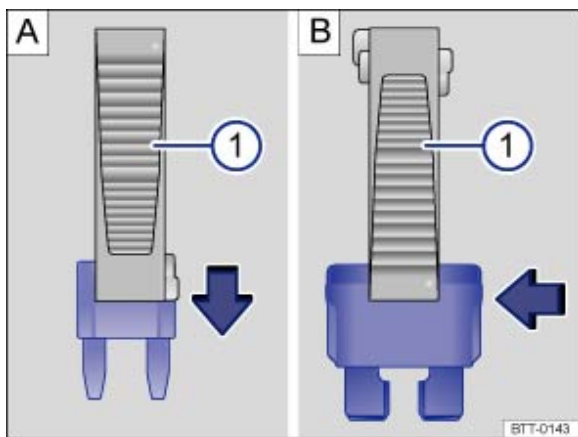

Fig. 241 Removing or fitting the fuse using the plastic pliers ①
- If applicable, take the plastic pliers → Fig. 241 ① out of the fuse box cover.
- For *small fuses*, push on the catch → Fig. 241 ① from above → Fig. 241 A.
- For *bigger fuses*, push the catch → Fig. 241 ① onto the fuse from the side → Fig. 241 B.